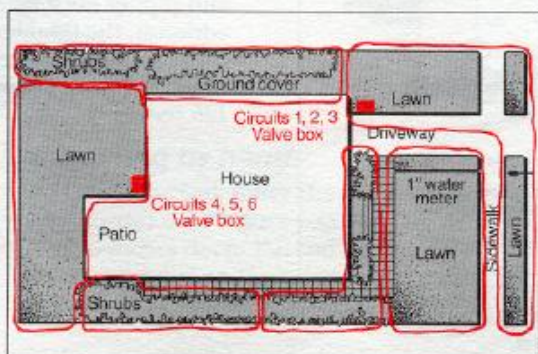

Figure 8: Suggested valve box locations.
3. The number of valves in each location depends on the number of circuits. Use one valve per circuit (Figure 8).